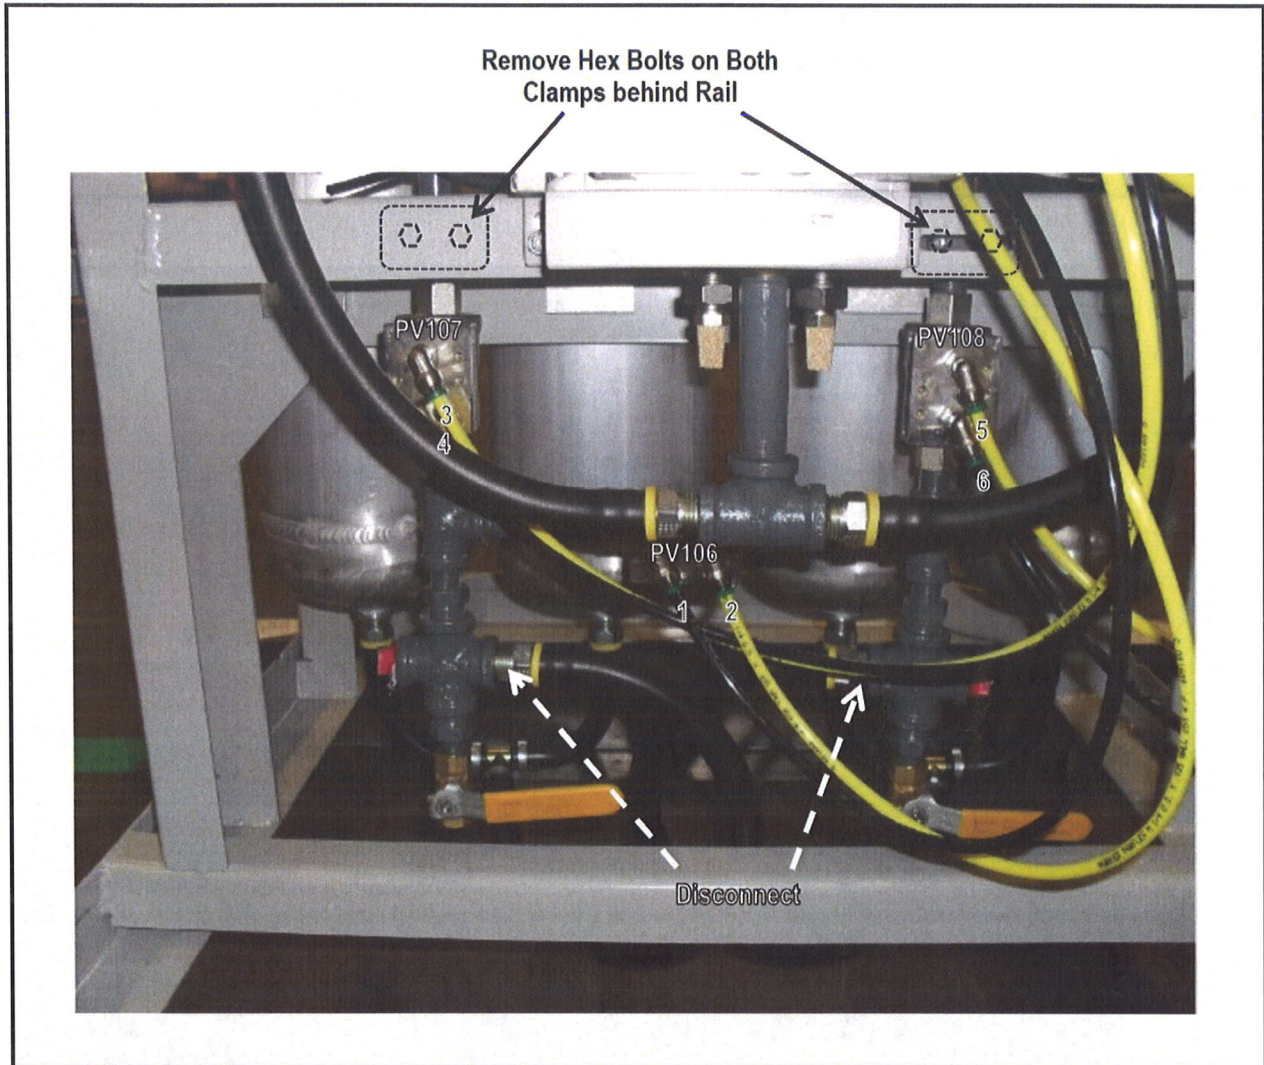

Figure 13: DB-5/10 Lower Manifold - Label All Tubing Connections
- b. Disassemble subcomponents, and replace o-rings and seat material as shown in Figure 13.